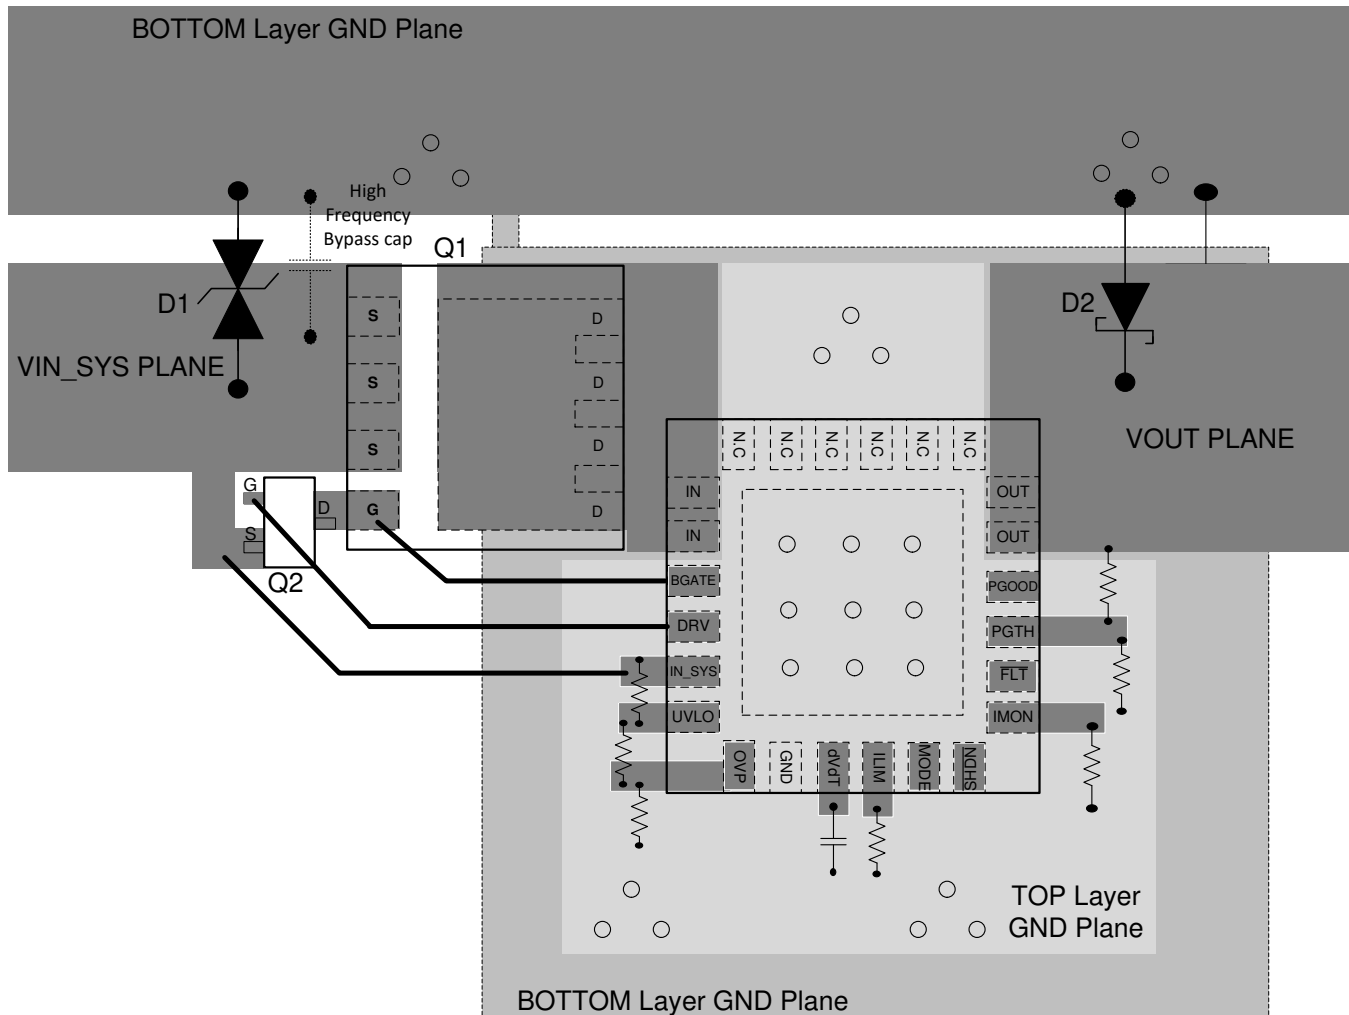
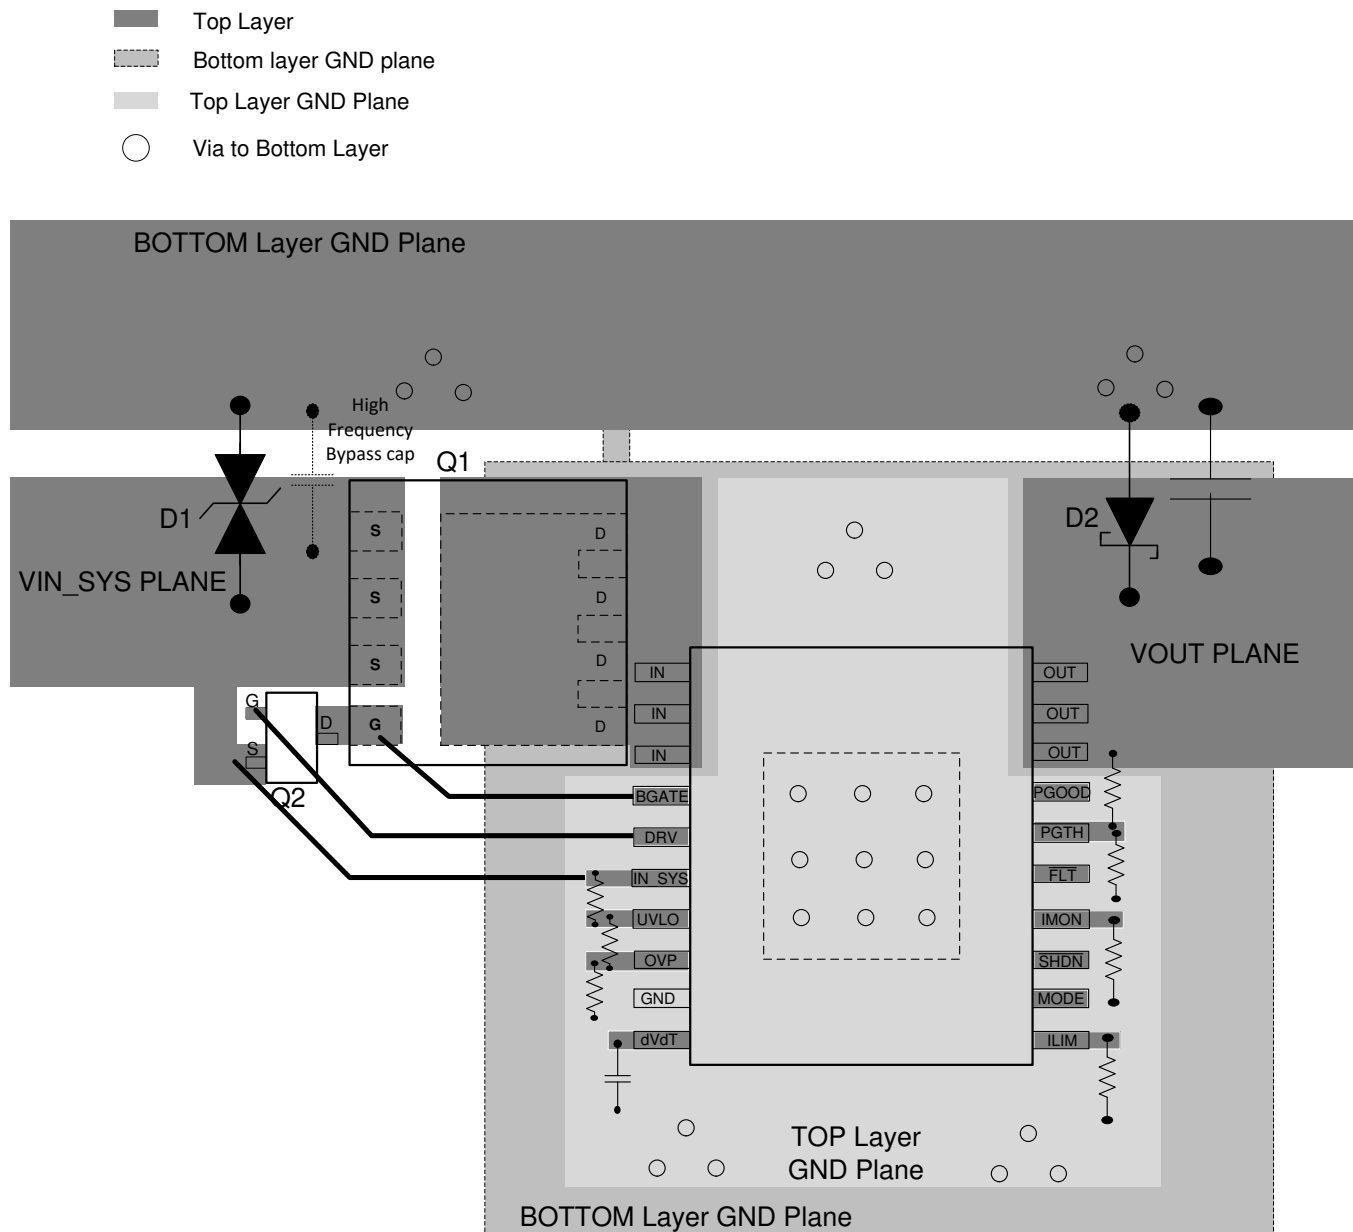

图 59. Typical PCB Layout Example With QFN Package With a 2 Layer PCB
图 60. Typical PCB Layout Example With HTSSOP Package With a 2 Layer PCB
- The external FET Q1 should be placed with DRAIN close to the V_{IN} pins of the IC and connected through a plane. The fast pull down switch Q2 DRAIN and SOURCE should be placed very close to the GATE and SOURCE terminals of Q1 with very short loop. See 图 59 and 图 60 for a typical PCB layout example.